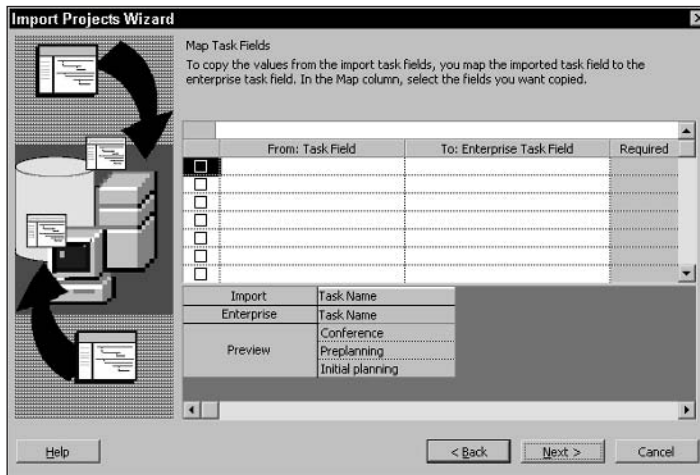

Figure 19-37: Map project task fields to enterprise task fields.
7. Use the next screen, shown in Figure 19-37, to map task fields in your project to enterprise task fields. To map, place a check mark in the column of the field that you want to map. Click in the From: Task Field column, and a list box appears. Click in the To: Enterprise Task Field column, and another list box appears. When you finish, click Next.